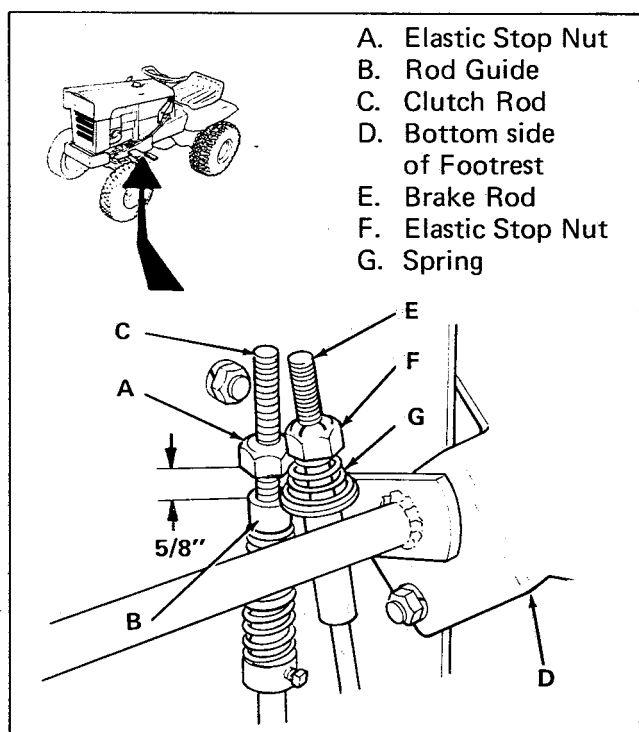

Figure 15. Brake Rod and Clutch Free-Travel Adjustments
3. Measure gap between elastic stop nut (item A, figure 15) and rod guide (item B) on clutch rod (item C). Adjust position of elastic stop nut (item A) as necessary to obtain gap of 5/8 inch between bottom of nut and top of rod guide.